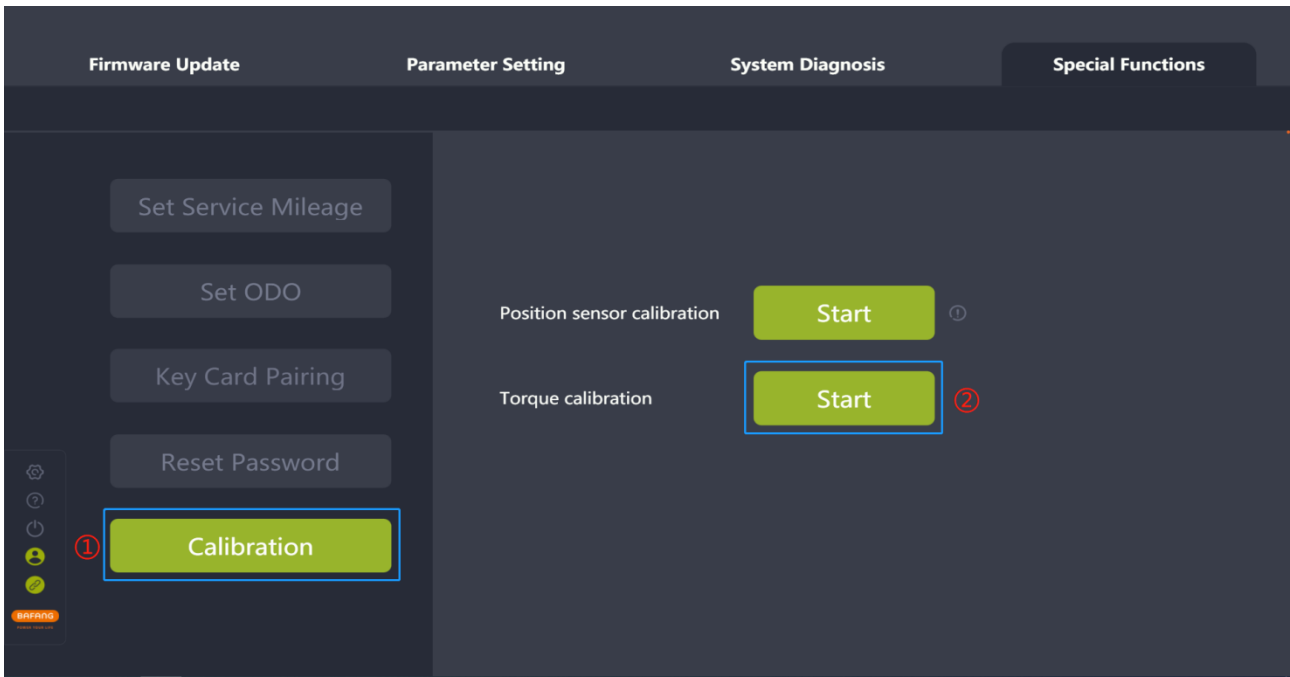

Fig. 7-8 Torque calibration
- (1) Connect the BESST Box to the display and select the "calibration" icon;
- (2) Click the "Start" icon next to the tag "Torque calibration" to start the torque calibration (e.g. Fig. 7-8).